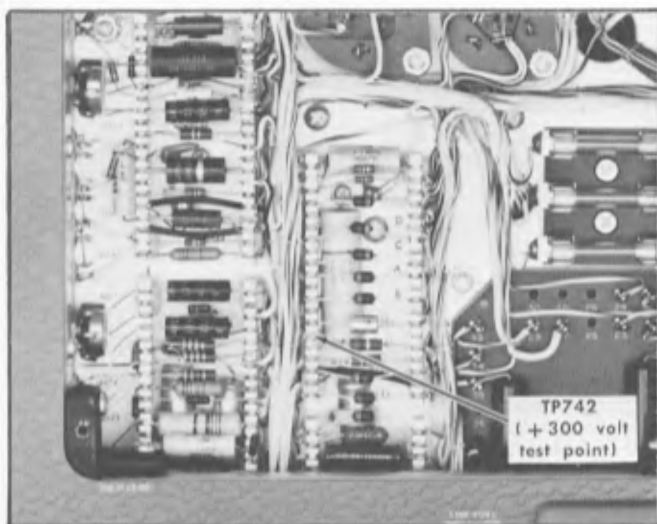

Fig. 6-5. Location of TP742 (+300 volt test point).
a. Connect a DC voltmeter between TP742 (+300 volt test point), see Fig. 6-5, and ground.
b. Connect a 1 \times probe from the input connector on the plug-in of the test oscilloscope to TP742 (+300 volt test point), see Fig. 6-5.